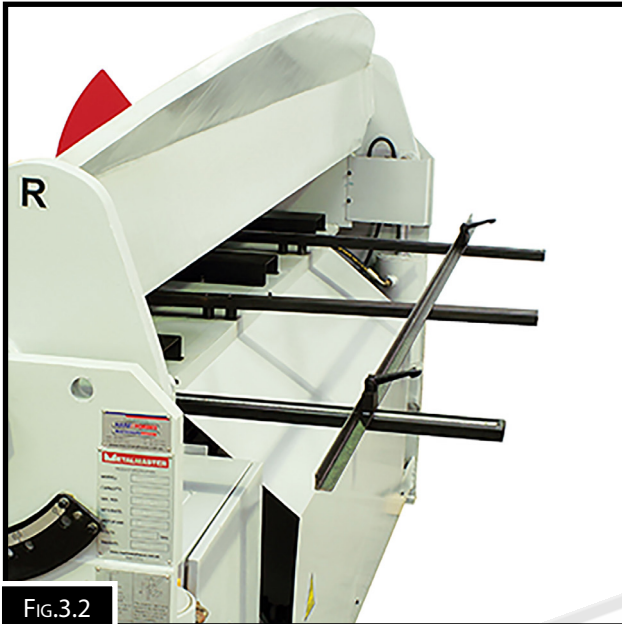

FIG.3.2
- ☐ Bolt on the arms that support the back gauge. Ensure they are square to the table. (Fig 3.2)